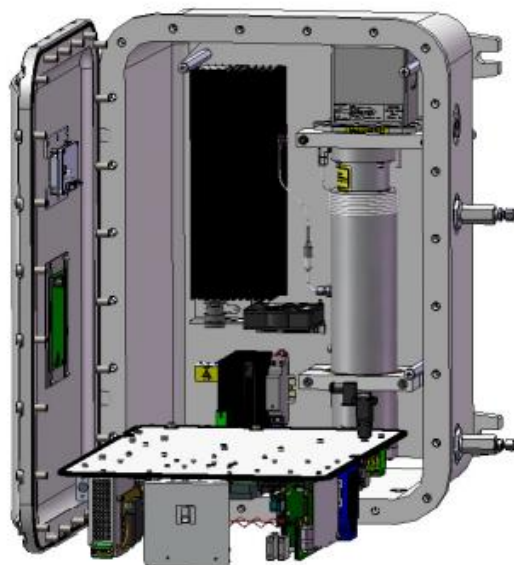

Figure 32. Lowered top-level electronics assembly exposing the sample panel
12. Support the electronics panel without completely removing it from the enclosure. Refer to Figure 32.